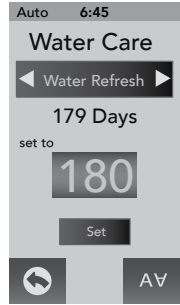

Figure 12.7d
1. From the “Water Care” Menu you can to set the “Water Refresh” timer, Figure 12.7d.
A programmable filter timer can be set to remind you when to clean or replace the MicroClean Outer Filter. Tap  (Figure 12.7d) until you reach the “MicroClean Outer” tab to enter the Programming Menu (Figure 12.7e).